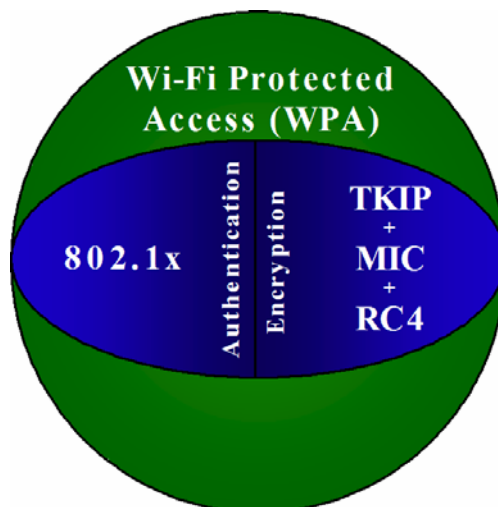

FIG. 105 WPA Overview
- To resolve problems with WEP, the Wi-Fi Alliance released WPA (FIG. 105) which integrated **802.1x**, **TKIP** and **MIC**. Within the WPA specifications the RC4 cipher engine was maintained from WEP. RC4 is widely used in SSL (Secure Socket Layer) to protect internet traffic.